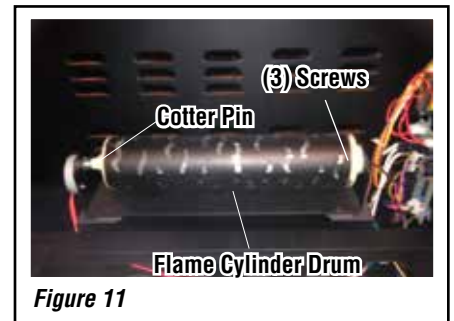
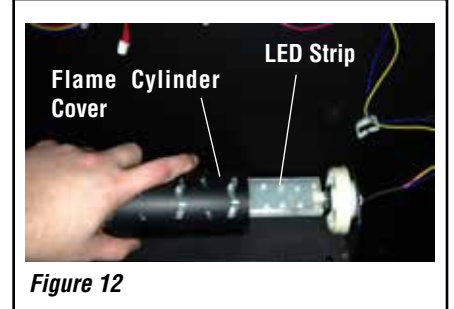

Figure 11
Figure 12
- iii. Locate flame cylinder drum (see **Figure 11**). Locate the cotter pin on left side of flame cylinder and remove it. Remove outer plastic sleeve of drum by removing the (3) screws on the right side of the sleeve. Disconnect the left side of the flame cylinder drum from the motor, and slide the outer sleeve off. you will have access to the LED strip (see **Figure 12**). **NOTE: do not exert excessive pressure on the drum cylinder as this may cause damage.**